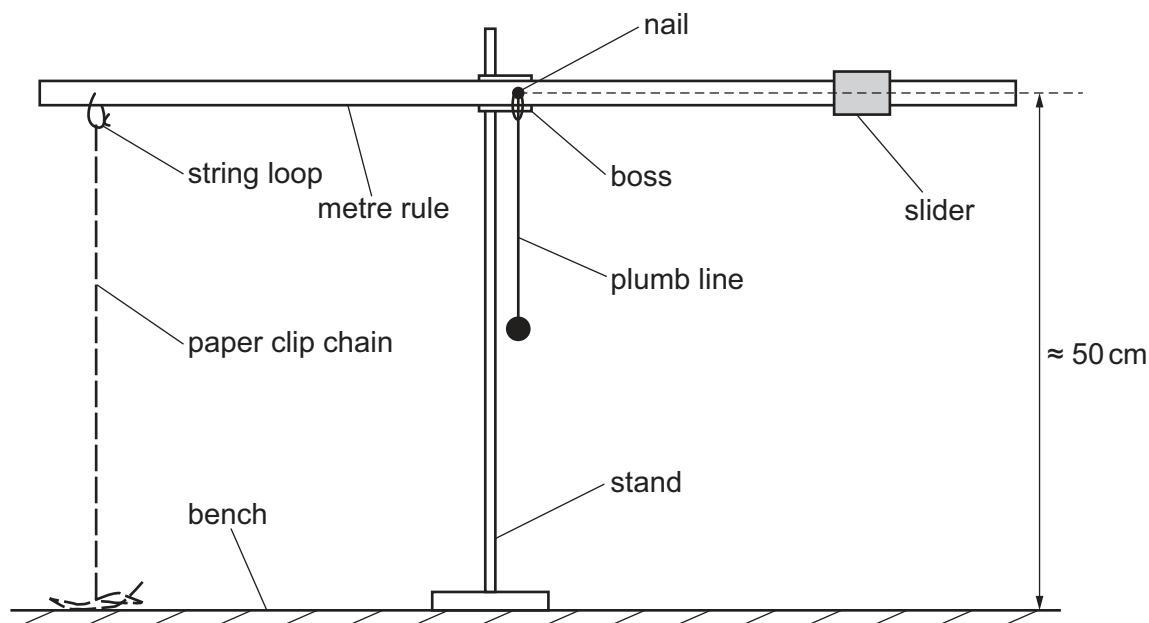

**Figure 1.1**
- Assemble the apparatus as shown in Figure 1.1.
- Adjust the position of the slider until the metre rule is approximately parallel to the bench, as shown in Figure 1.1.